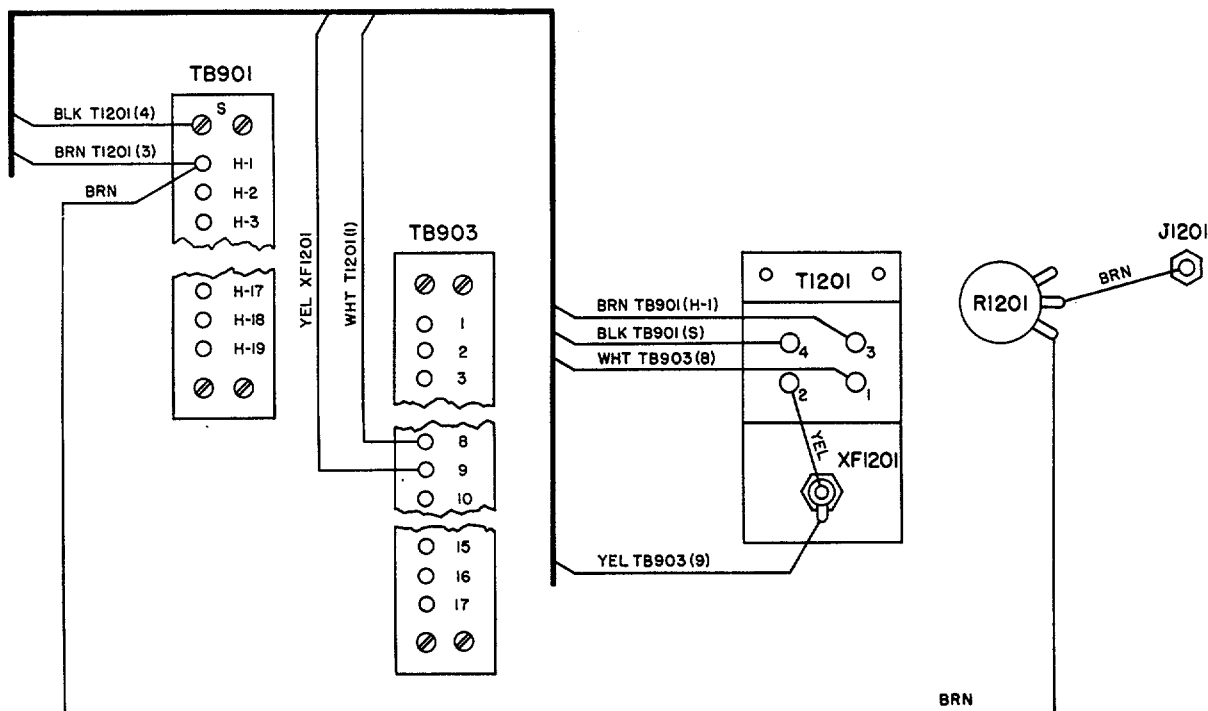

Figure 34. Plotter installation, wiring diagram.
- o. Connect the four cabled wires and the brown wire to TB901 and TB903 as shown in figure 34.
- Note. If the four-wire cable is not already connected to the transformer and fuse, solder the four leads to the proper terminals (fig. 34). If the brown wire is not already connected to the rheostat, rotate the rheostat shaft fully clockwise and solder the wire to the terminal on which the sliding contact rests.